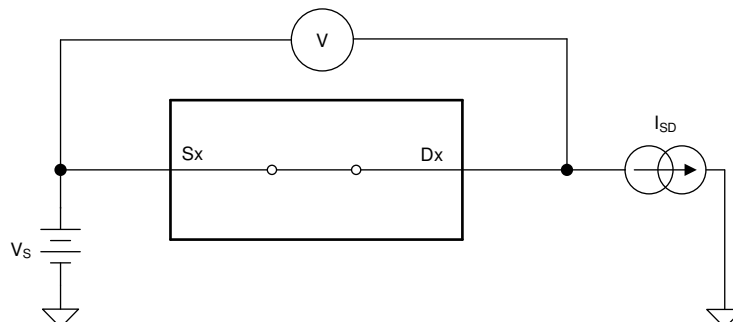

Figure 6-1. On-Resistance Measurement Setup
The on-resistance of a device is the ohmic resistance between the source (Sx) and drain (Dx) pins of the device. The on-resistance varies with input voltage and supply voltage. The symbol R_{ON} is used to denote on-resistance. The measurement setup used to measure R_{ON} is shown in Figure 6-1. Voltage (V) and current (I_{SD}) are measured using this setup, and R_{ON} is computed as shown below with $R_{ON} = V / I_{SD}$: